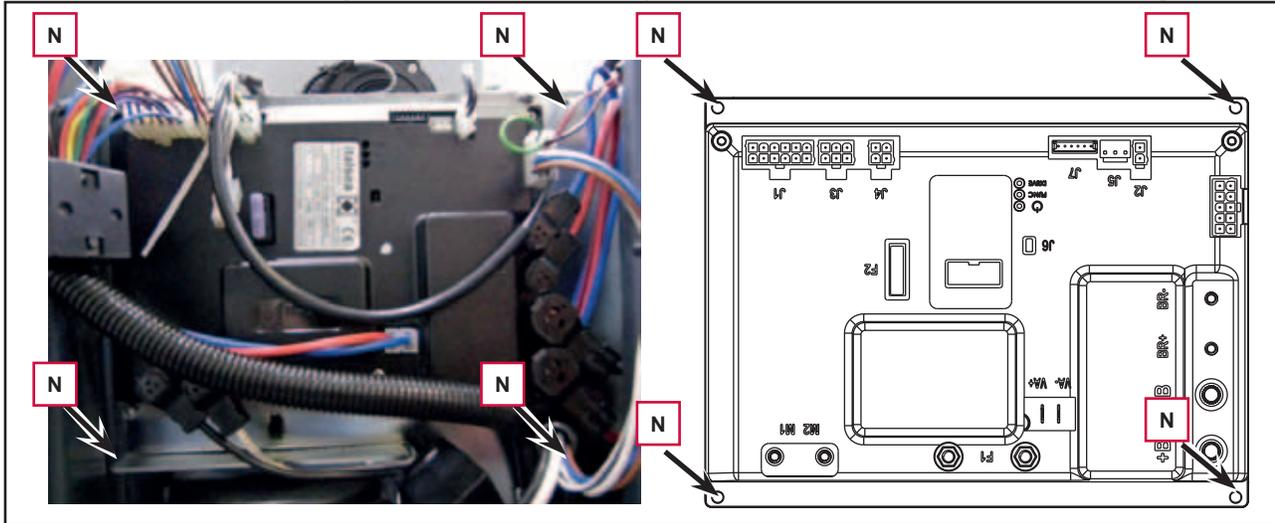

Figure 14
9. Unscrew the 4 retaining screws (N) and carefully remove the function electronic board (Figure 14).